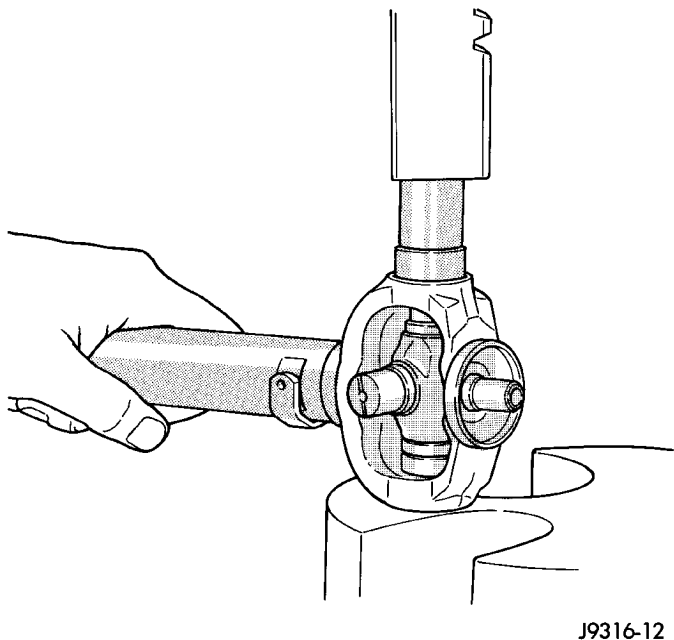

Fig. 27 Press In Bearing Cap
(6) Flip the propeller shaft yoke and install the bearing cap onto the opposite trunnion. Install a snap ring (Fig. 27).